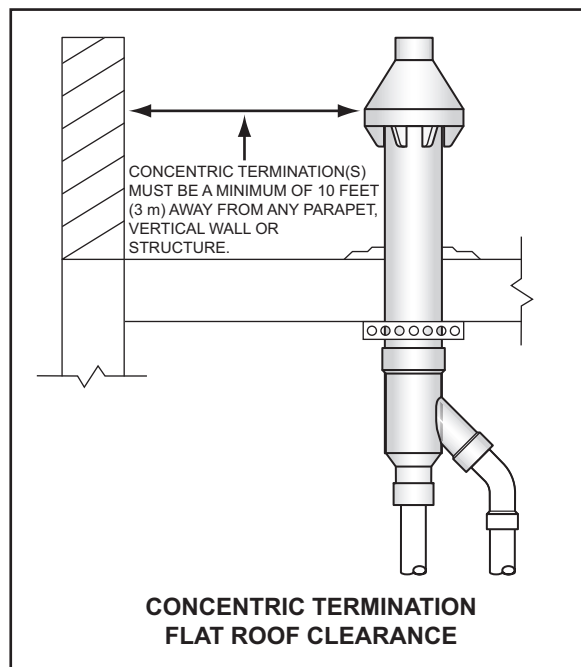

Figure 27
4. When installing a concentric termination vertically through a flat roof, the termination's vent cap must be a minimum of 10 feet (3 m) away from any parapet, vertical wall or structure as shown in Figure 27.